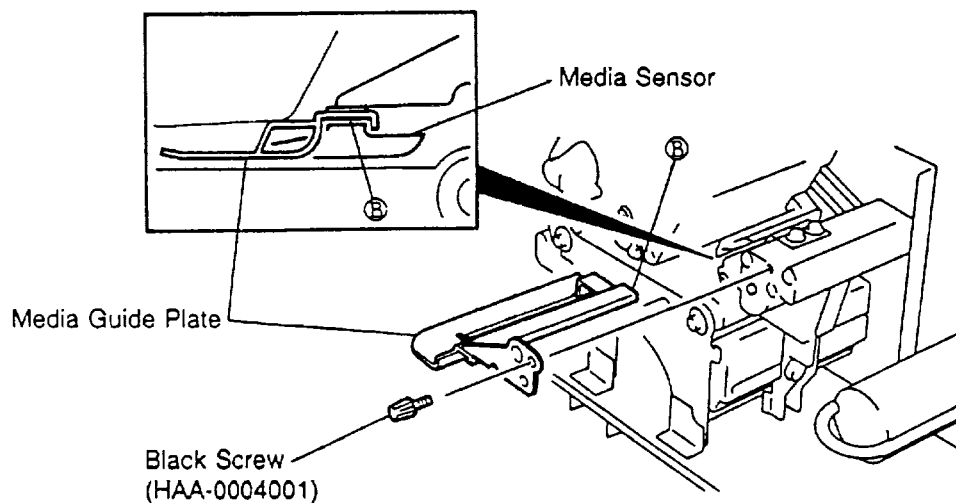

Fig. 10-2
3. Turn the head lever to position ③, then release the ribbon shaft holder plate.
4. Remove the black screw to detach the media guide plate. (See Fig. 10-2.)
8. Place the portion ④ of the media guide plate on the media sensor. Secure the media guide plate with the black screw.